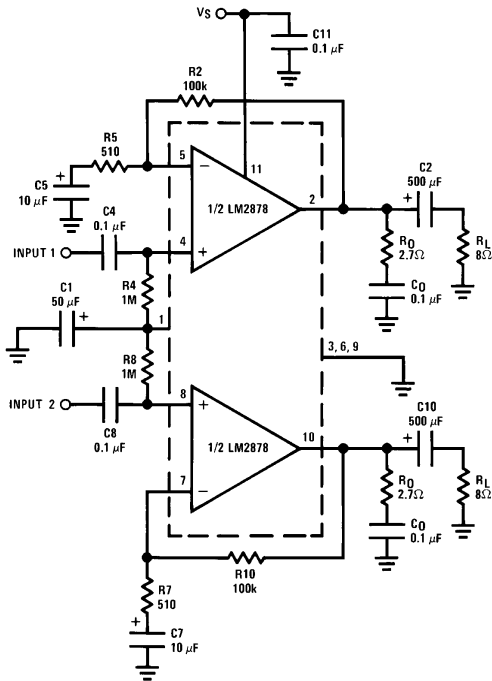

FIGURE 3. Stereo Amplifier with  $A_V = 200$  TL/H/7934-7
**External Components** (Figure 3)